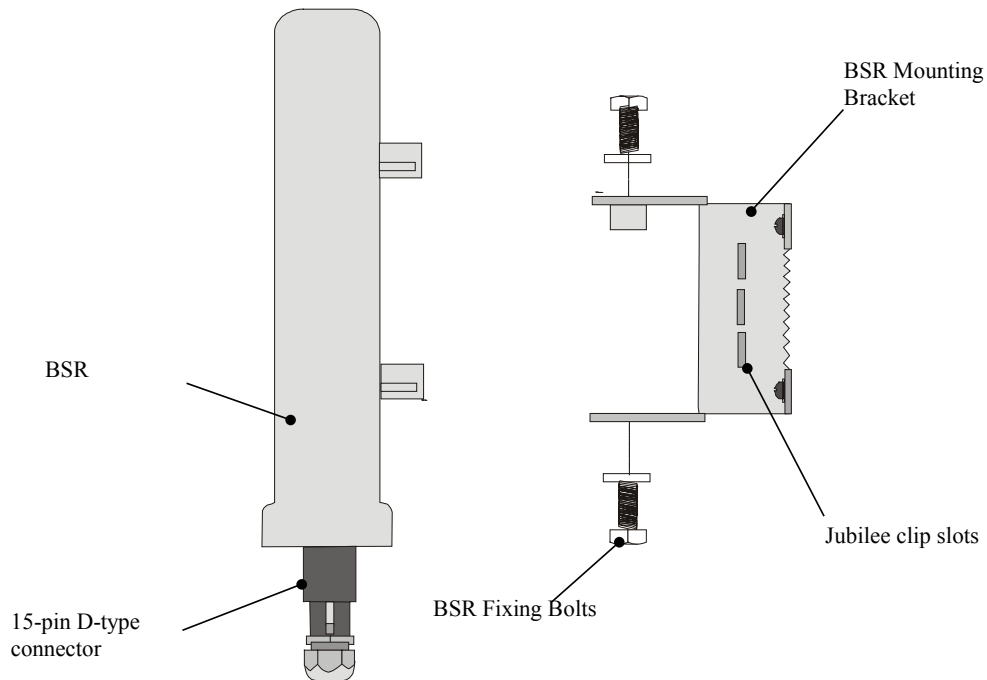

Figure 4-13: Attaching the mounting bracket to the BSR
1. Attach the mounting bracket to the BSR using two stainless steel bolts, as shown in Figure 4-13.